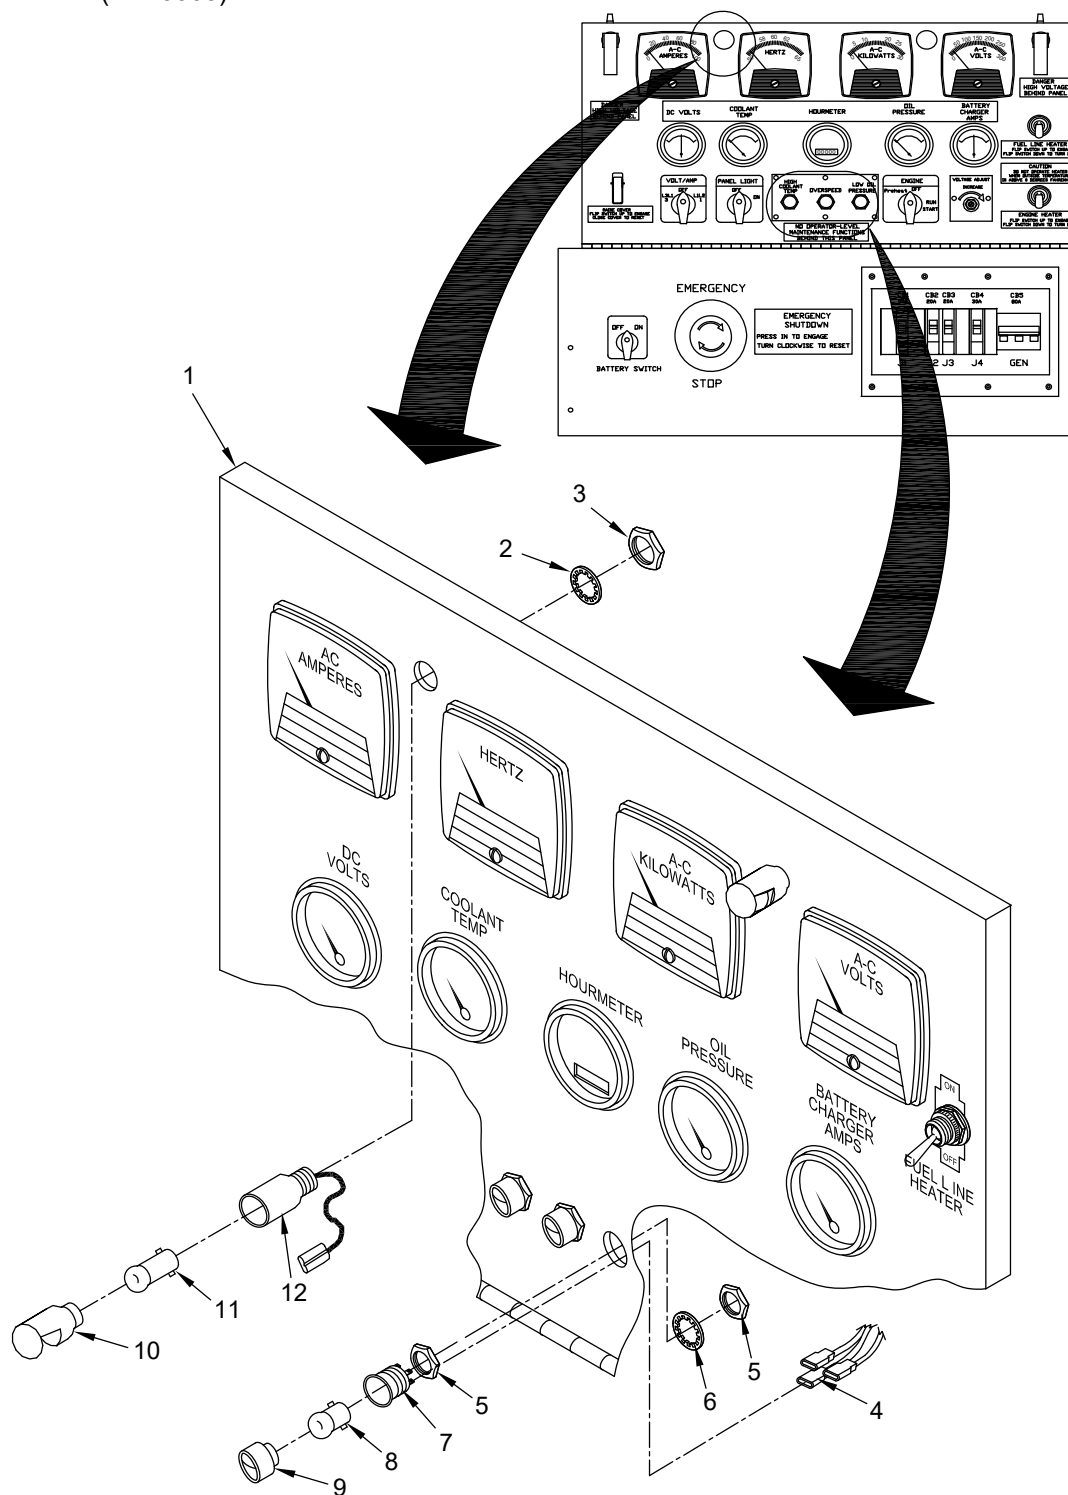

Figure 4. Light Assemblies Removal/Replacement.
3. Open door and control panel (Figure 4, Item 1). Allow control panel (Figure 4, Item 1) to drop down and hang from lanyards.
4. Mark and disconnect terminal coming from panel light (Figure 4, Item 12) from wiring harness.
5. Remove and retain nut (Figure 4, Item 3) and lock washer (Figure 4, Item 2) that secures panel light (Figure 4, Item 12) to control panel (Figure 4, Item 1).
6. Remove panel light (Figure 4, Item 12) from control panel (Figure 4, Item 1).
If necessary, remove cover (Figure 4, Item 10) and bulb (Figure 4, Item 11) from old panel light and install onto new panel light.
1. Insert panel light (Figure 4, Item 12) through front of control panel (Figure 4, Item 1).
2. Secure using nut (Figure 4, Item 3) and lock washer (Figure 4, Item 2).
3. Connect terminal from panel light (Figure 4, Item 12) to wiring harness.
4. Close control panel (Figure 4, Item 1) and secure.
4. Mark and disconnect three terminals (Figure 4, Item 4) coming from wiring harness from indicator light (Figure 4, Item 7).
5. Remove and retain nut (Figure 4, Item 5) and lock washer (Figure 4, Item 6) that secures indicator light (Figure 4, Item 7) to control panel (Figure 4, Item 1).
6. Remove indicator light (Figure 4, Item 7) from control panel (Figure 4, Item 1).
If necessary, remove cover (Figure 4, Item 9) and bulb (Figure 4, Item 8) from old indicator light (Figure 4, Item 7) and install onto new indicator light (Figure 4, Item 7).
1. Insert indicator light (Figure 4, Item 7) through front of control panel (Figure 4, Item 1).
2. Secure using nut (Figure 4, Item 5) and lock washer (Figure 4, Item 6).
3. Connect three terminals (Figure 4, Item 4) from wiring harness indicator light (Figure 4, Item 7).